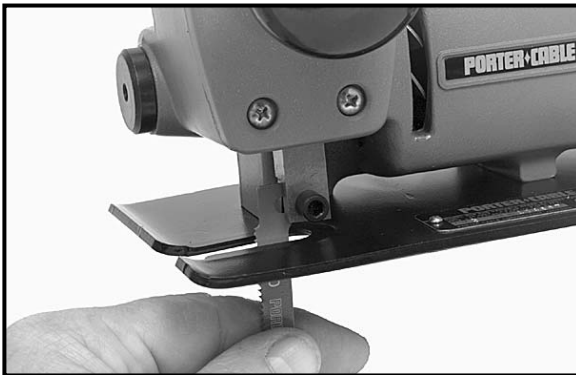

Fig. 1
**NOTE:** To avoid pinching and breakage of the blade make sure the recess in the nut faces the screw head and the shoulder on the screw projects slightly into this recess before installing the blade. Insert the blade into the blade holder and over the screw, see Fig. 1. Use the wrench furnished with your saw and apply only enough torque to firmly hold the blade.